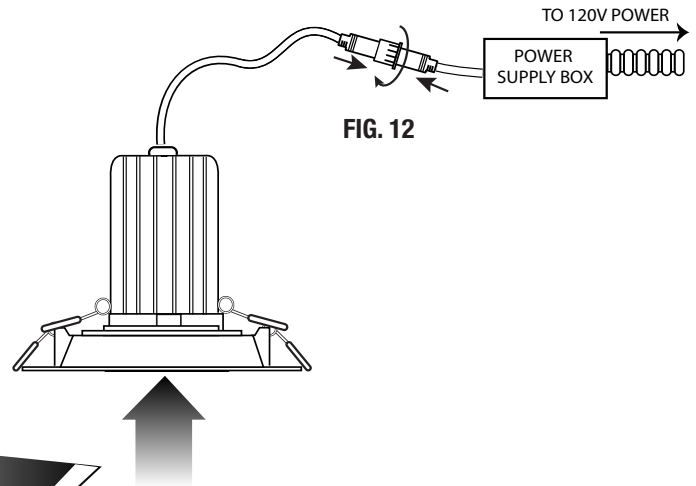

FIG. 12
7. MOUNT JUNCTION BOX AND CONNECT DOWNLIGHTS: Proceed to feed junction box up into hole. Locate boxes in a place leaving the quick connect cord hanging near the trim hole for easy access. (Fig. 12). Connect each downlight cable to it proper junction box with mating twist connector.